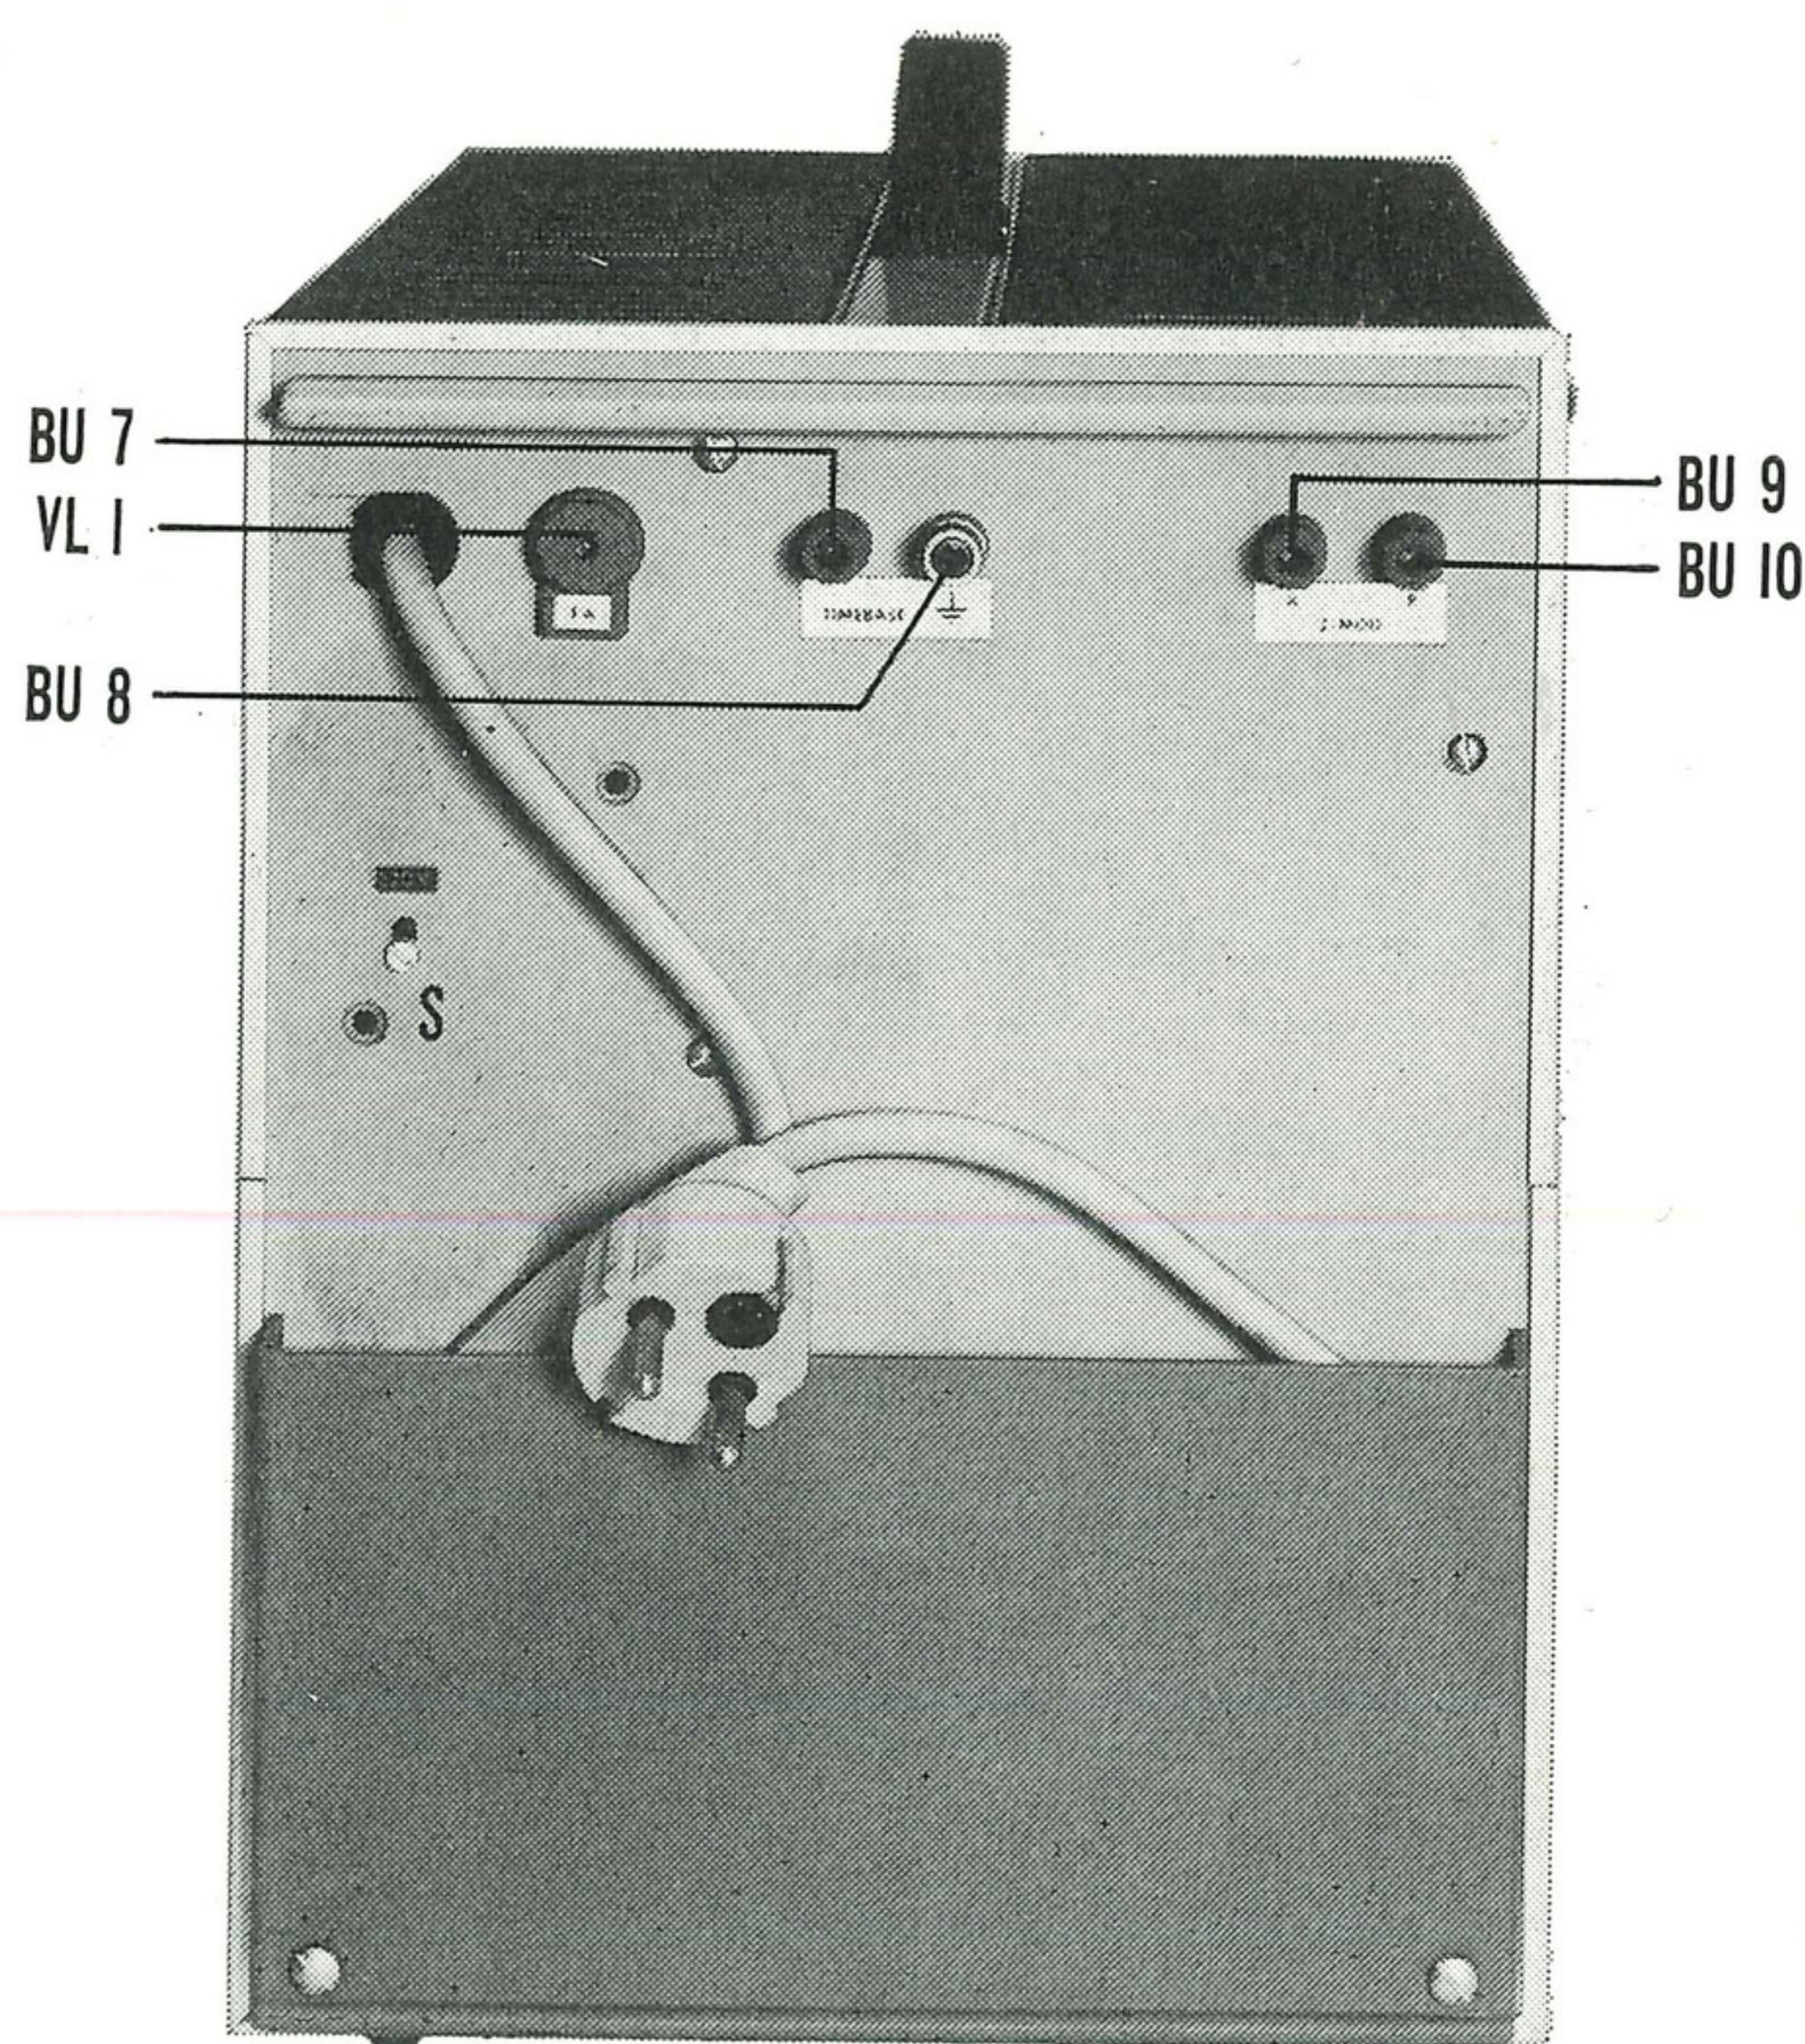

Fig. 4. Rear view
- Unscrew the locking screw "S" slightly by turning it anti-clockwise (Fig. 4).